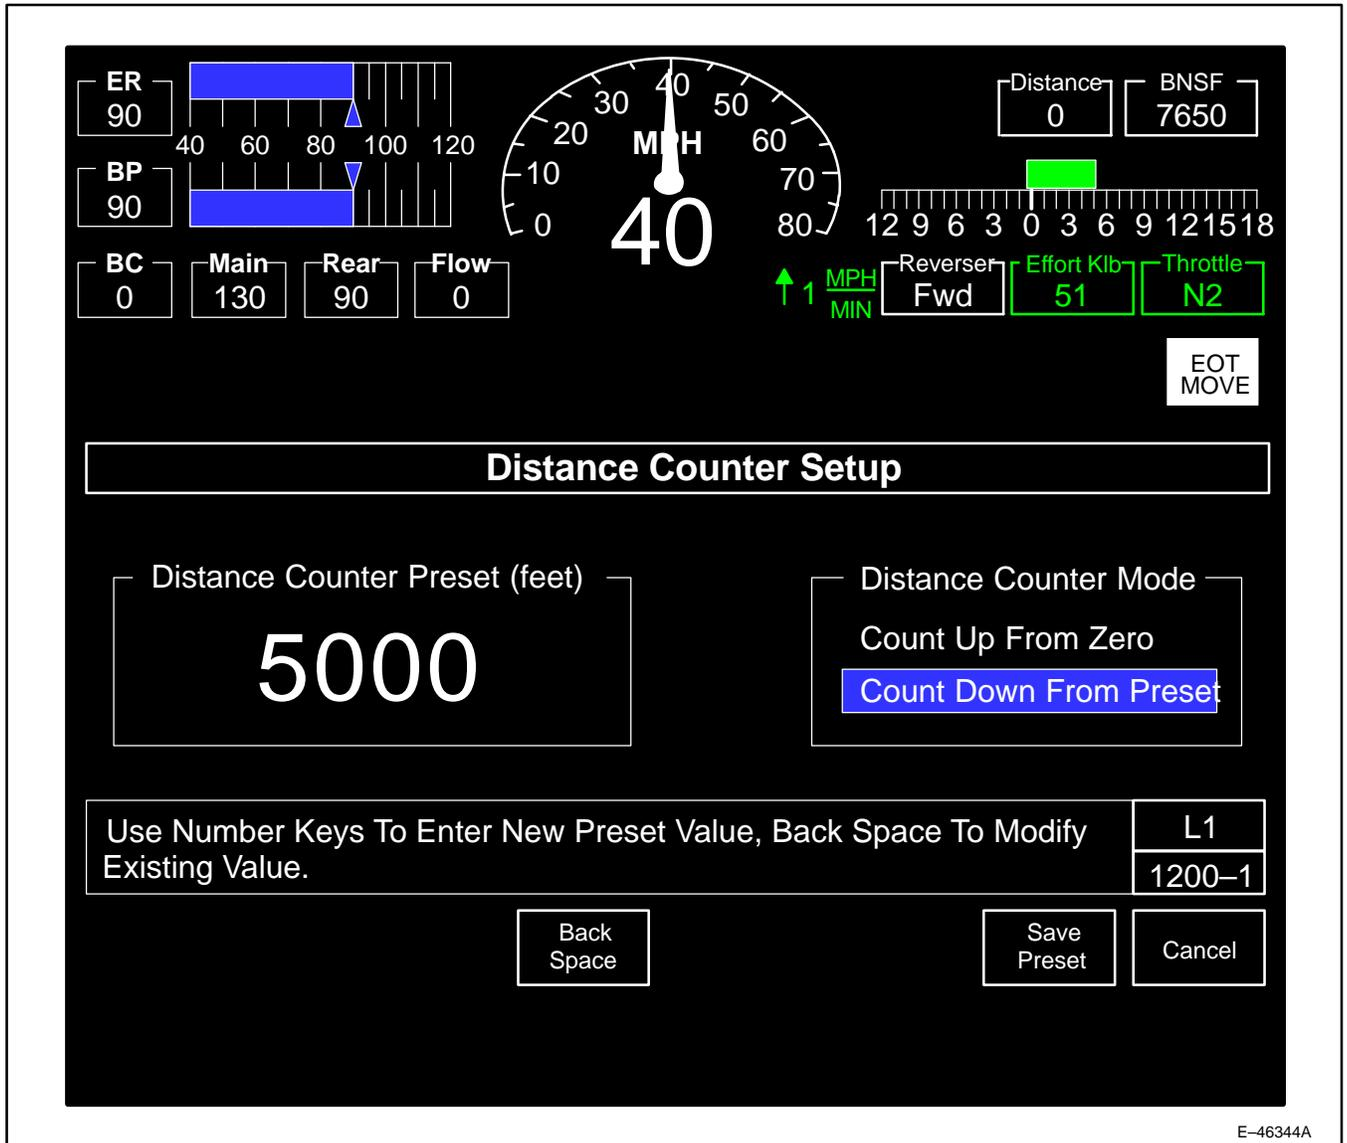

Figure 62. Distance Counter Change Setup Screen (1200-1).
1. Pressing key position F4 (**Modify Preset**) will display screen 1200-1 (Figure 62). Three keys are available on this screen as follows: